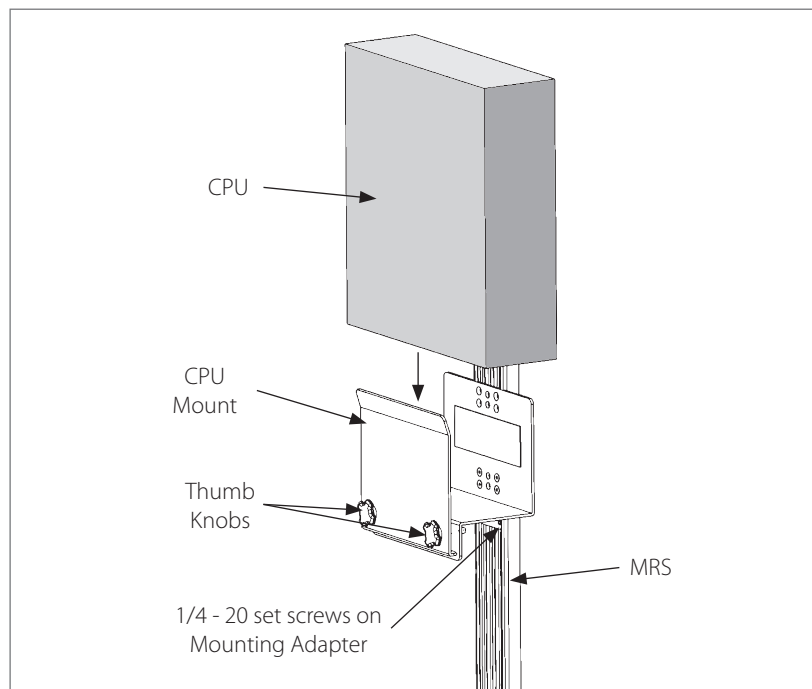

Figure 1
2. Lower the CPU mount down the MRS to the desired height. Tighten the two set screws in the Mounting Adapter to the tightest possible position using a 1/8" Hex key (**Figure 1**).